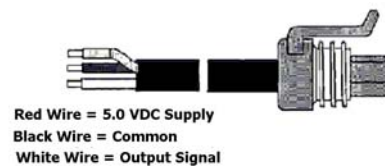

FIGURE 4 - WIRE HARNESS ASSEMBLY
5. Attach wiring harness assembly plug to (P399) transducer. See Figure 4. Route sensor wires back to VFD66 enclosure.